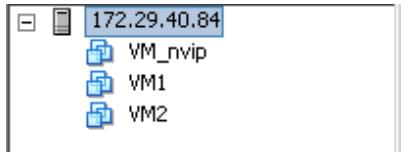

Figure 5-37. Selecting a Managed Host
2. Select the managed host to which you want to add a new virtual machine (Figure 5-37).